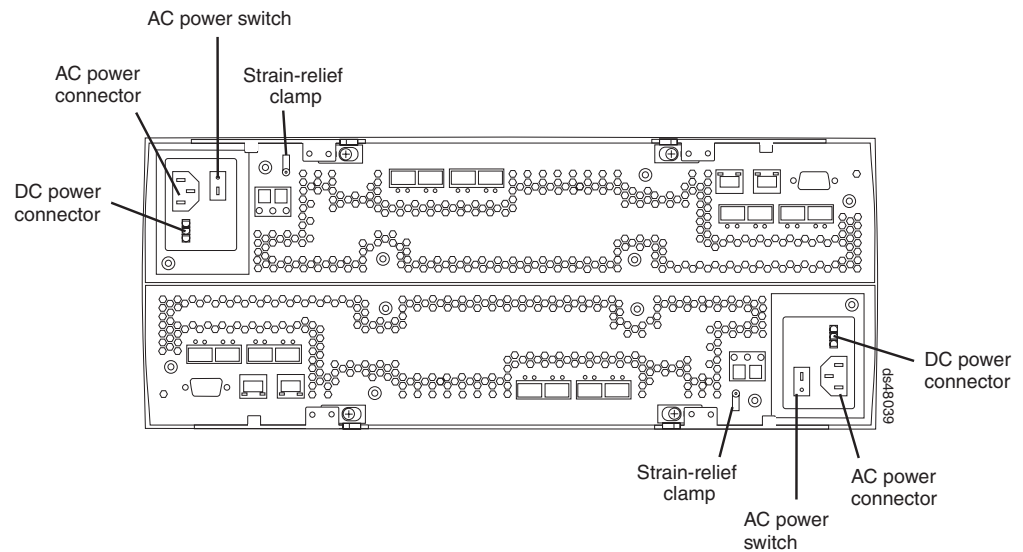

Figure 67. AC power switch and AC and DC power connectors
2. If you have not already done so, turn off all power switches on each storage subsystem and storage expansion enclosure in the cabinet. Figure 67 shows the locations of the power switches and connectors on the storage subsystem.